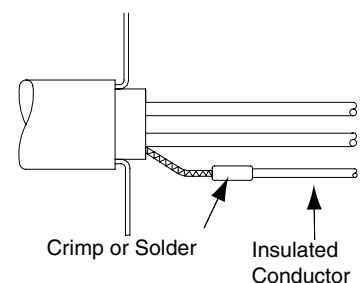

Fig. 3
- 2.5. Crimp an insulated conductor to the pigtail with a suitable insulated butt ferrule (or soldered connection), leaving enough length of the insulated conductor to enable the remote end to be connected to the earth terminal in the equipment. (See Fig. 3).